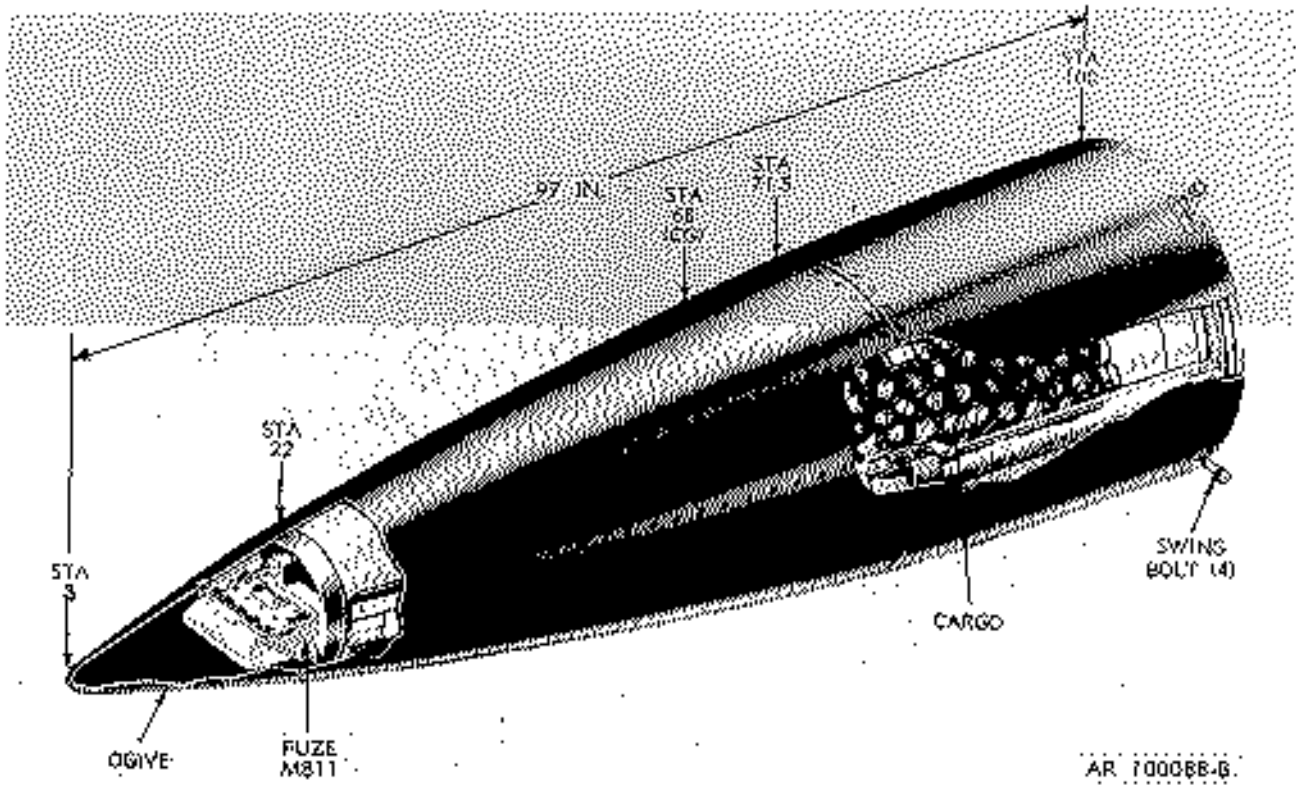
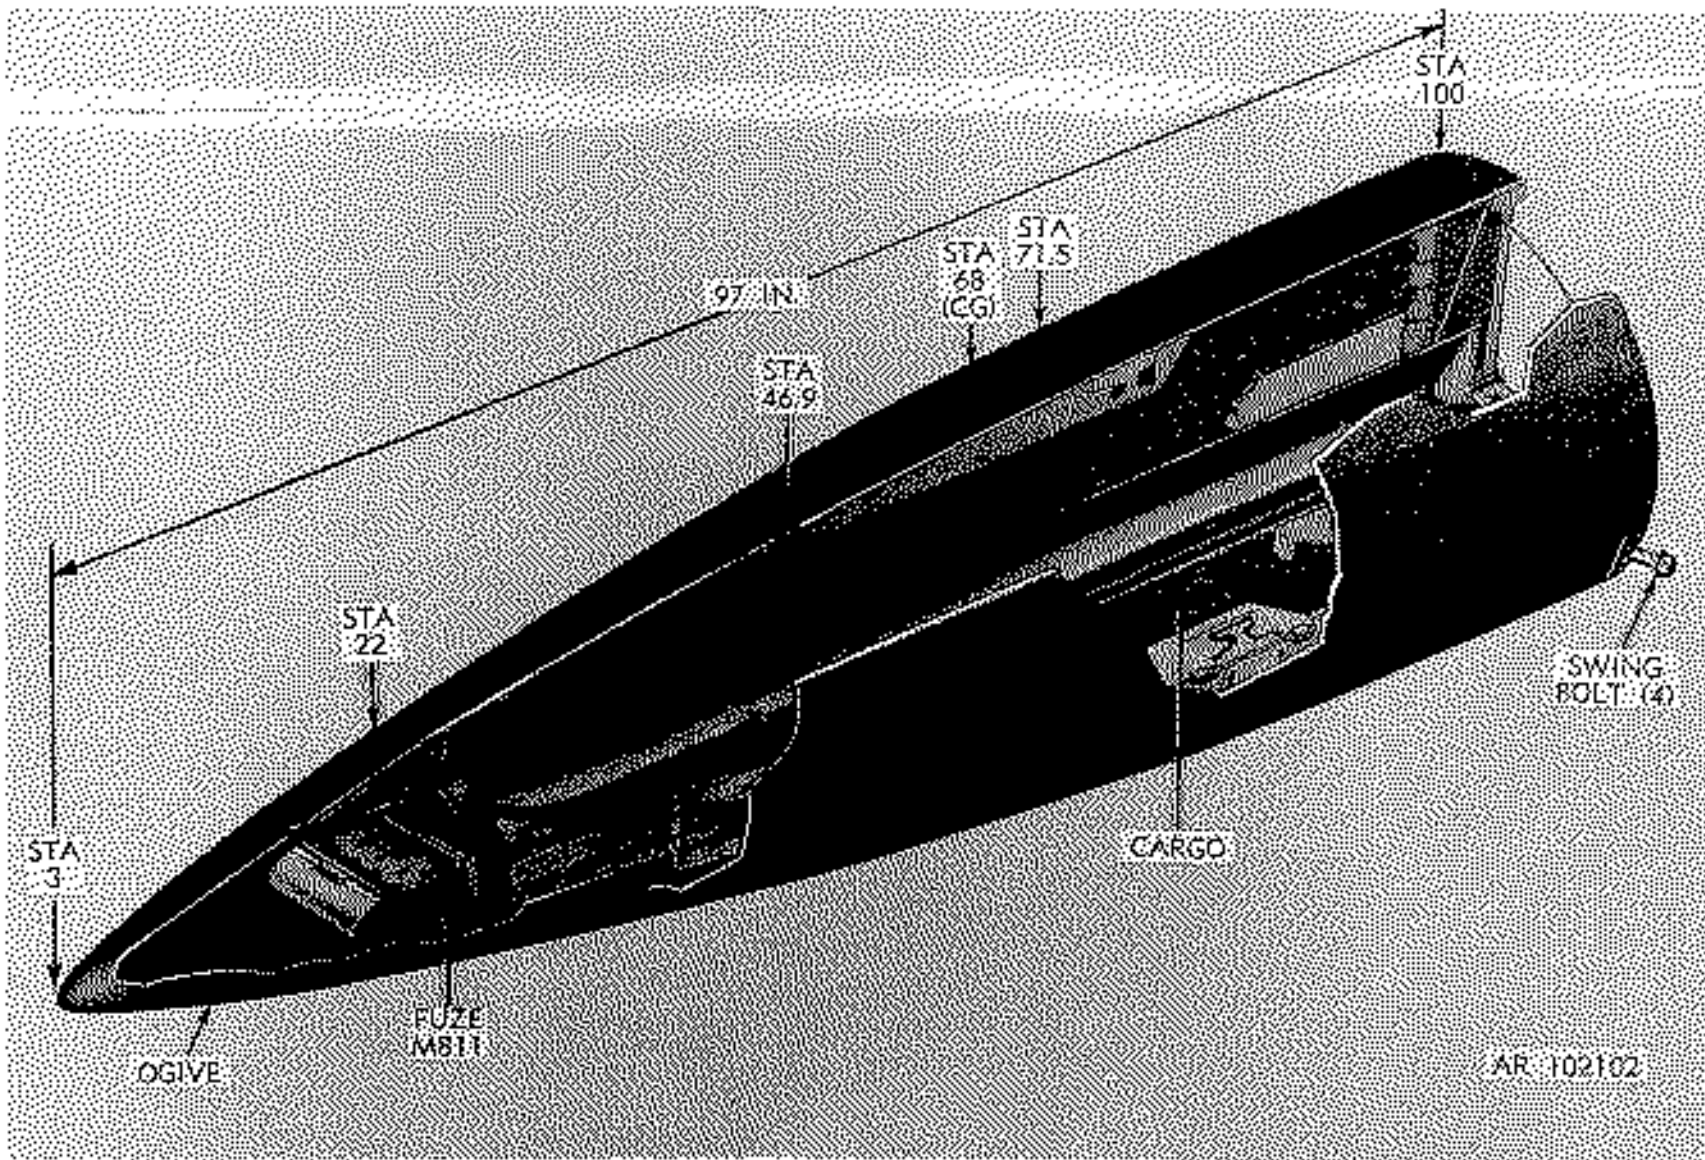

Figure 1-1. High explosive guided-missile warhead section M251-cutaway view.
Figure 1-2. High explosive guided-missile warhead section M251A1-cutaway view.
*c. Description.* The M251 warhead section (fig 1-1) houses the M811 fuze and 825 fragmentation bombs BLU-63/B. The M251A1 warhead section (fig 1-2) houses the M811 fuze and 580 fragmentation grenades M74. For descriptive purposes, the warhead section may be divided into four general categories: the structure, the fuzing system, the cargo, and the cargo release system.